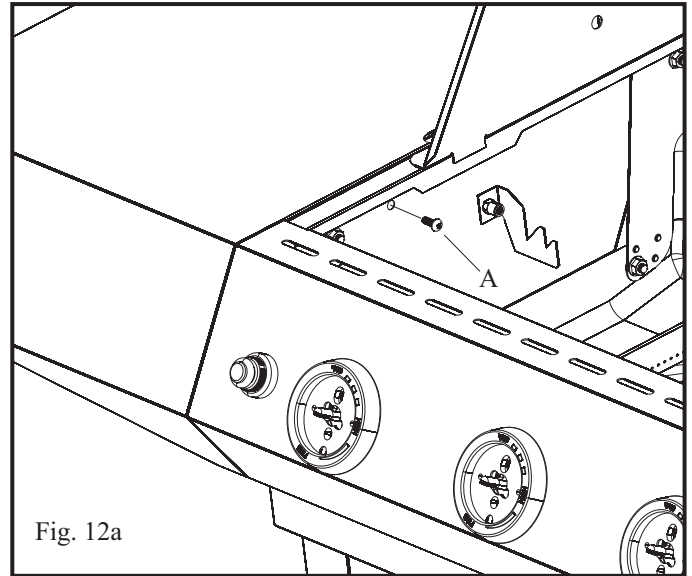

Fig. 12a
- (2) #10-24 x 1/2" Bolts
A. Lift the grill lid and insert one (1) #10-24 x 1/2" bolt, shown as "A" in Fig. 12a, to further secure the right shelf to the grill body.